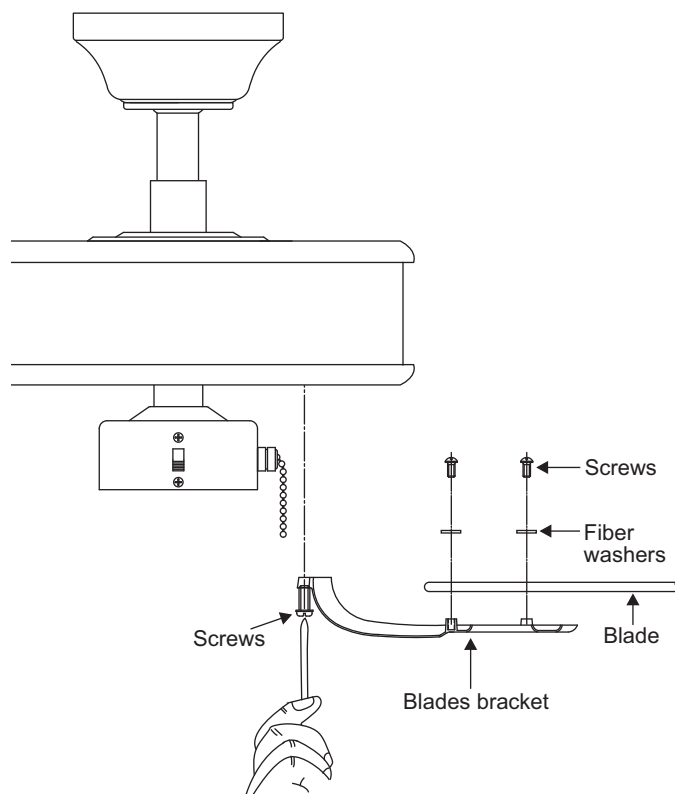

Figure 17
**Step 1.** Attach the blade to the blade bracket using the screws and fiber washers as shown in Figure 17. Start screw into bracket. Repeat for the two remaining screws.
**Step 3.** Fasten blade assembly to motor using the screws supplied. (Fig. 17)